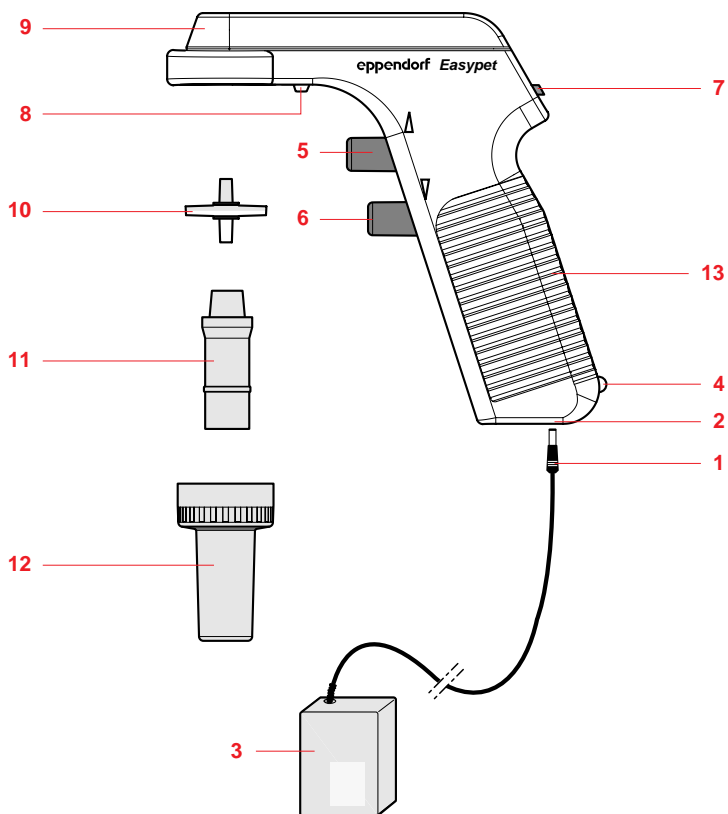

Fig. 1
- Connect the plug of the transformer (Fig. 1 – 1) to the electrical connection on the grip (Fig. 1 – 2).
- Connect the transformer (Fig. 1 – 3) to the main power supply. The red charge control lamp (Fig. 1 – 4) will turn off.
When the pump is used to fill and empty the pipet, the aspirating- or dispensing speed can be selected using the pump speed control (Fig. 1 – 7) (I = slow, IIIII = fast).
- Press the aspirating button \triangle (Fig. 1 – 5). Fill the pipet to just above the desired mark.
- Press the dispensing button ∇ (Fig. 1 – 6) slowly until the meniscus is exactly level with the desired mark.
- The dispensing speed can be set using the pump speed control (Fig. 1 – 7).
The aspirating cone (Fig. 1 – 12) and the adapter (Fig. 1 – 11) are autoclavable.
Slide open the lid of the battery compartment in the grip (Fig. 1 – 13) and remove the batteries. Insert new batteries. Orient according to marking in the battery compartment.